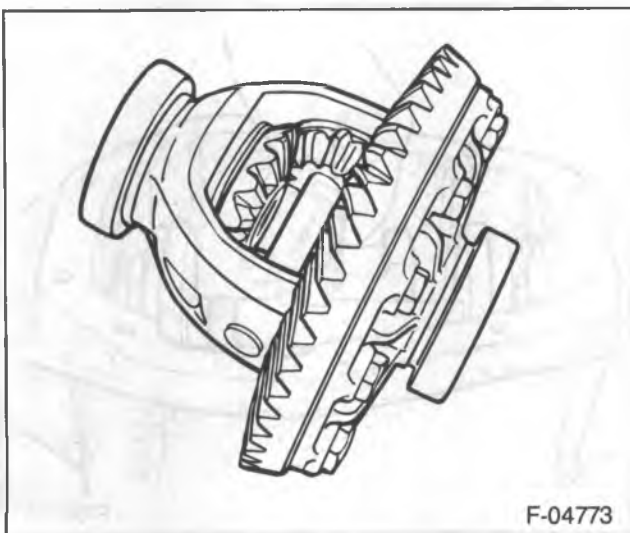

Figure 21—Differential with Master Bearings
10. Master differential bearings D-117 to the differential (figure 21).